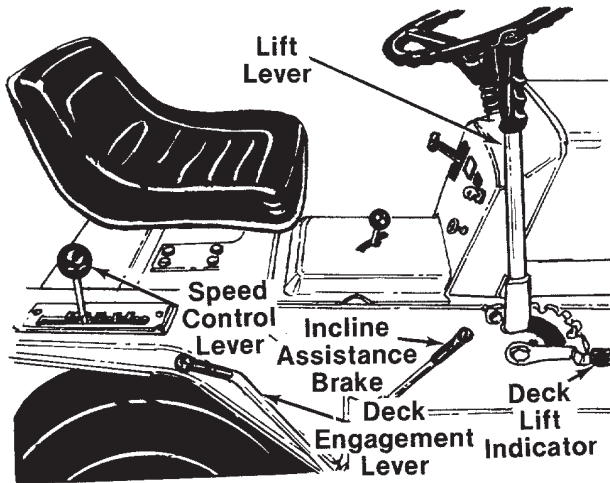

FIGURE 15.
The speed control lever is located on the right fender. It allows you to regulate the ground speed of the lawn tractor. See figure 15. To select the ground speed, depress clutch pedal. Push speed control lever outward and move backward to slow lawn tractor, move forward to increase speed. When desired speed has been obtained, release lever in that position. Whenever clutch is engaged, unit will automatically go to the pre-set speed.
When stopping on a hill, hold the incline assistance brake lever back while you release the clutch-brake pedal until the lawn tractor begins to move, then release the lever. This lever permits smoother starts and clutch engagement by holding the tractor during the brake release/clutch engagement operation. See figure 15.
The lift lever is located on the right side of the unit. It is used to raise and lower the cutting deck and other attachments. Move the lever to the right, then forward or backward to the desired position and release. See figure 15.
The deck lift indicator marks the position being used for the lift lever. Select the lift lever position desired, press the indicator lever outward, move it to the position immediately below the lift lever and release the indicator lever. See figure 15.
3. Place the blade engagement lever in the DISENGAGED position. See figure 15.